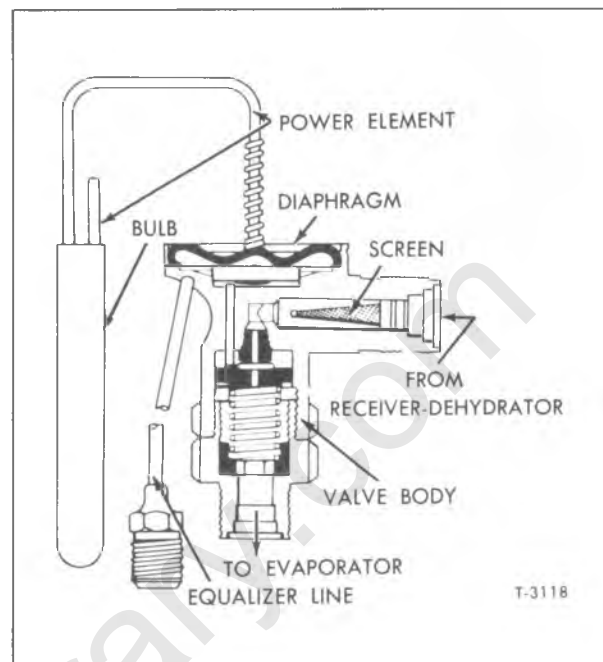

Figure 5—Expansion Valve
6. The temperature at which substances will boil or condense is affected by pressure. Refer to "Pressure Temperature Chart" (fig. 5). If the pressure is increased, the liquid will not boil until a higher temperature is reached. Thus, we can prevent refrigerant from boiling if it is kept under high pressure. If this high pressure is suddenly released, refrigerant will immediately boil. This has been demonstrated on modern vehicles with pressure cooling systems.
The expansion valve (fig. 5) consists of a capillary bulb and tube which is connected to an operating diaphragm (which is sealed within the valve itself) and an equalizer line which connects the valve and the low pressure return line.
When the air conditioning system has not been operating, all pressures within the expansion valve assembly will have equalized at the ambient (surrounding air) temperature, thus the pressure above and below the operating diaphragm and at the inlet and outlet side of the valve will be equal (fig. 5).